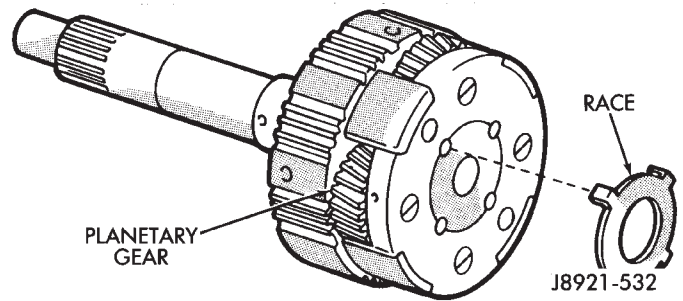

Fig. 12 Remove Planetary Gear Race
(13) Remove race from planetary gear (Fig. 12).